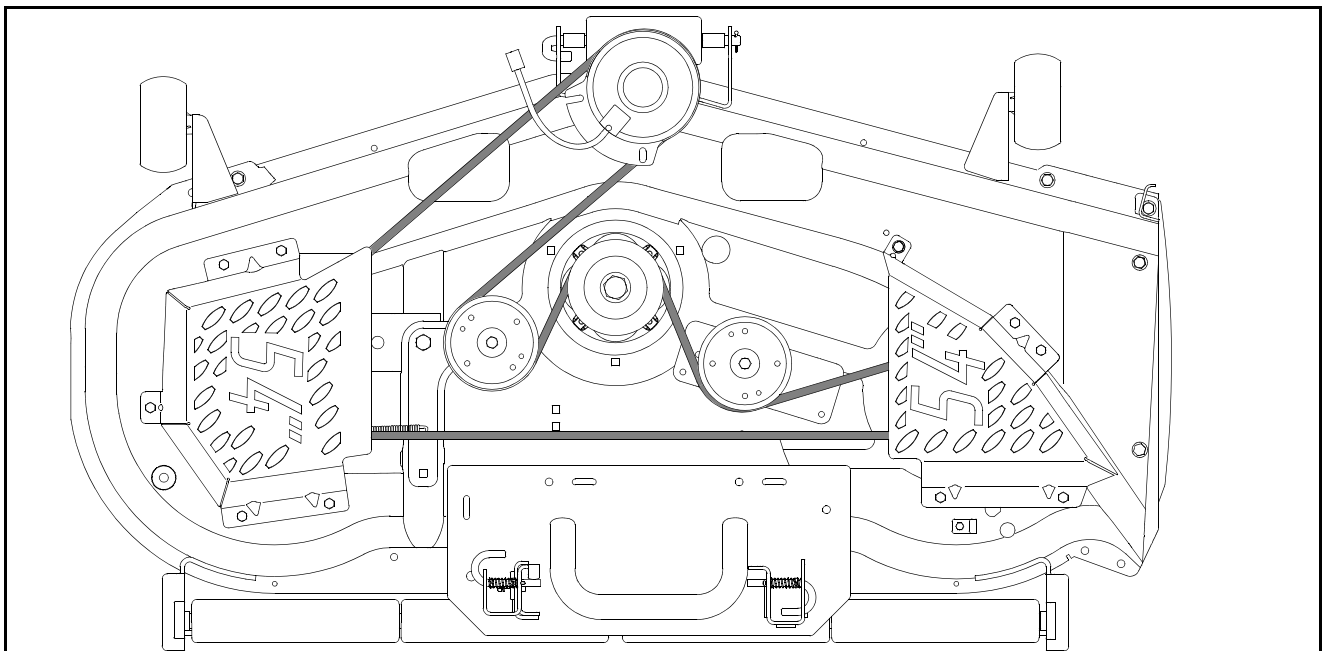

Figure 24
- Install the new belt and route as shown in Figure 24; then tension the belt following the previous instructions.